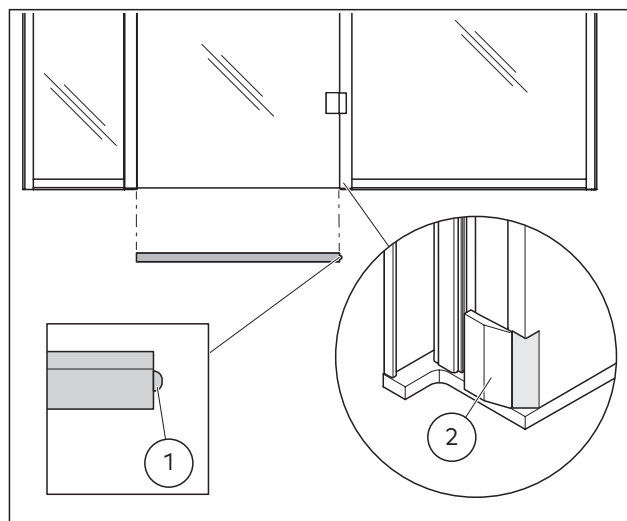

Fig. 14 Position the trigger wedge on the trigger's side at the secondary closing edge
1. Align the sealing element in the drop-down seal profile so that the trigger wedge is positioned at the secondary closing edge during mounting (Fig. 14).
4. Position the drop-down seal's trigger wedge on the trigger's side at the secondary closing edge (Fig. 14).